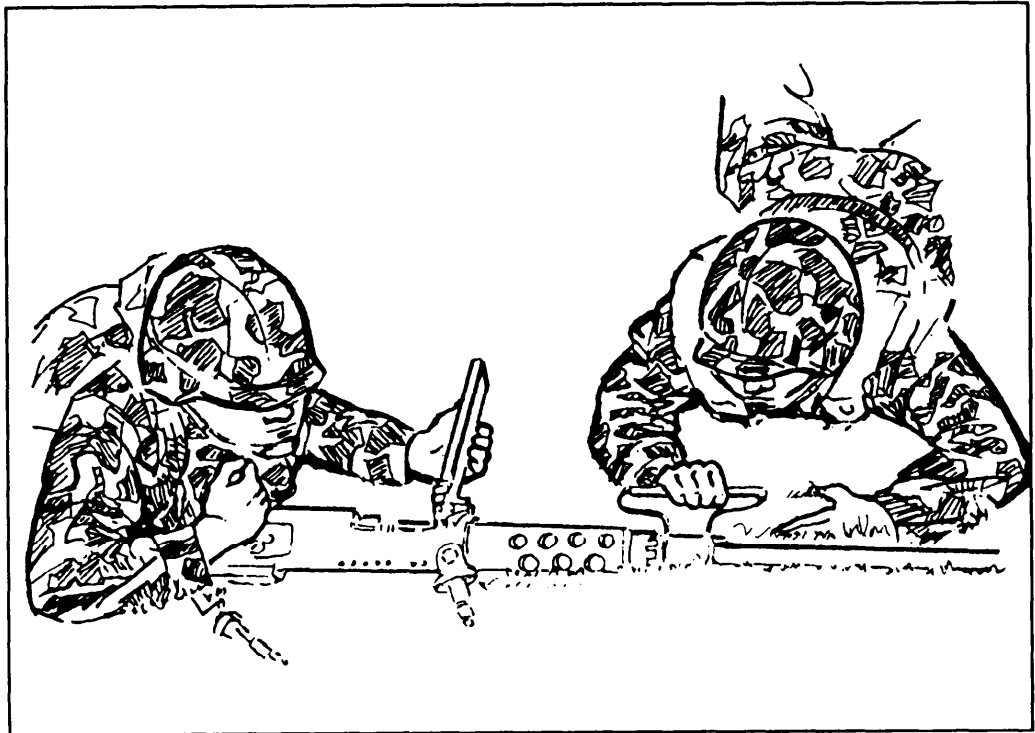

**Figure 5-16. Crew formed in column.**
(1) *Positions with equipment.* The crew forms in column, facing the crew leader with five paces between men (Figure 5-16, page 5-24). They are in the following order: assistant gunner, gunner, and ammunition bearer. When the crew members reach their correct positions, they assume the prone position with equipment arranged as follows: